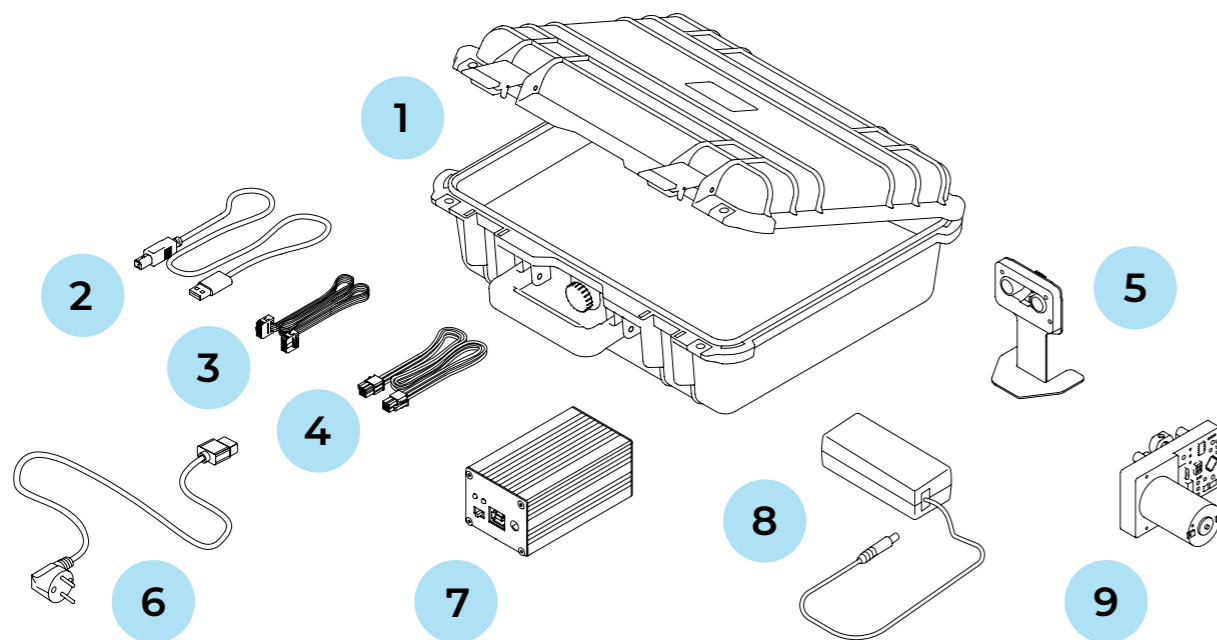
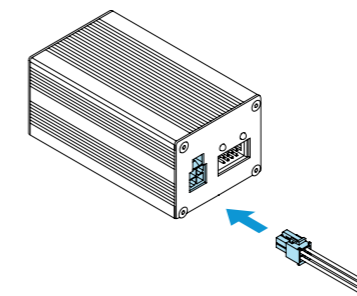

Figure 6. Robox Kit
Figure 7.
1. Open the Robox transport case, remove all the kit components shown in Figure 6 from the polyethylene foam logement.
2. Connect the power supply (8) to the 220/110 V mains using the cable (6).
4. Connect the power supply (8) to the interface conversion block (7).
5. Connect the servo using the cable (4) to the interface conversion block (Figure 7).